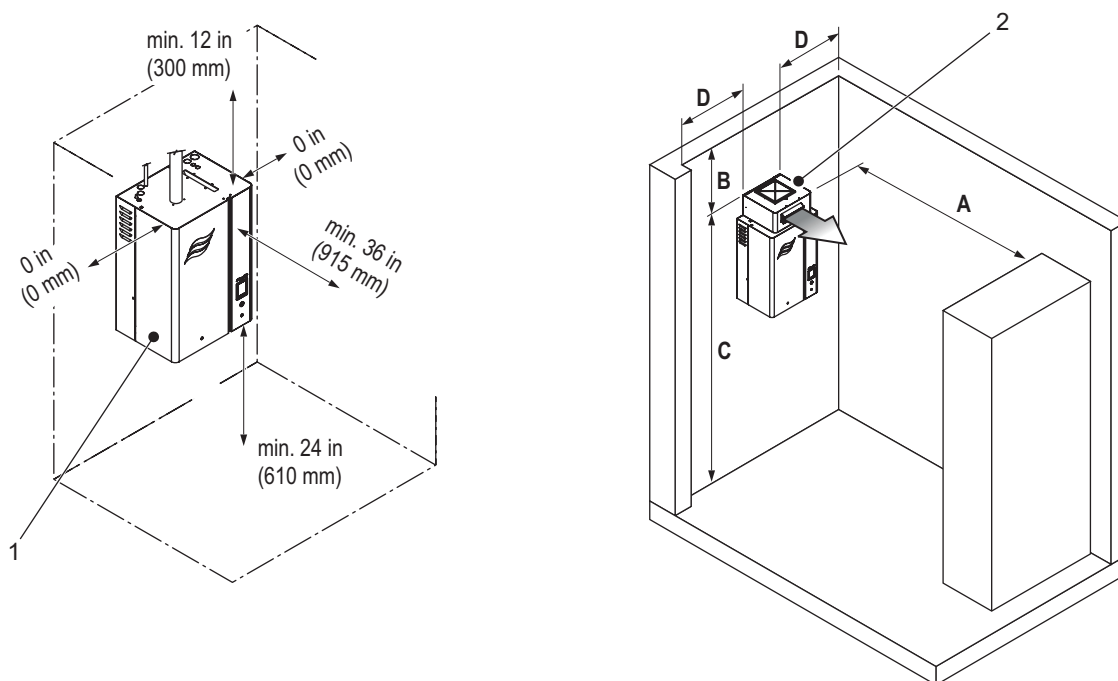

Figure 16: Location and Clearances
- Allow adequate clearances around the humidifier for ease of maintenance. Although the Nortec EL humidifier requires no side clearance, Condair recommends minimum clearances of 6 in (150 mm) on the side. A clearance of 24 in (610 mm) between the humidifier and the ground is also required. Refer to Figure 16 and Table 11 on page 36, which also show the clearances required for the Nortec EL Space unit. Observe all local and national installation codes. Condair is not responsible for any installation code violations.